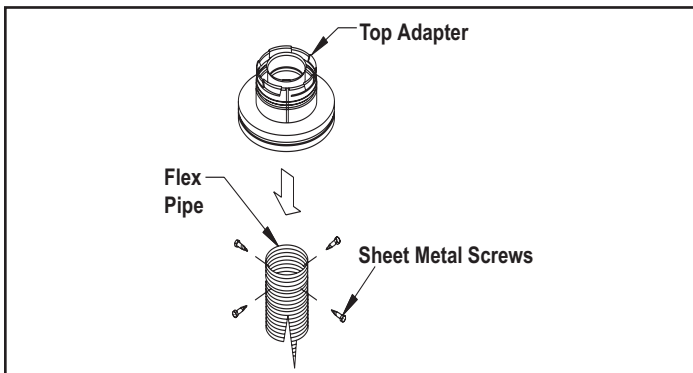

Figure 5.21
Step 3 - Connect the end of the flex pipe section to the underside of the top adaptor, using four sheet metal screws (Figure 5.21).
Step 5 - Connect the flex liner to the top adaptor using three sheet metal screws, Figure 5.21.